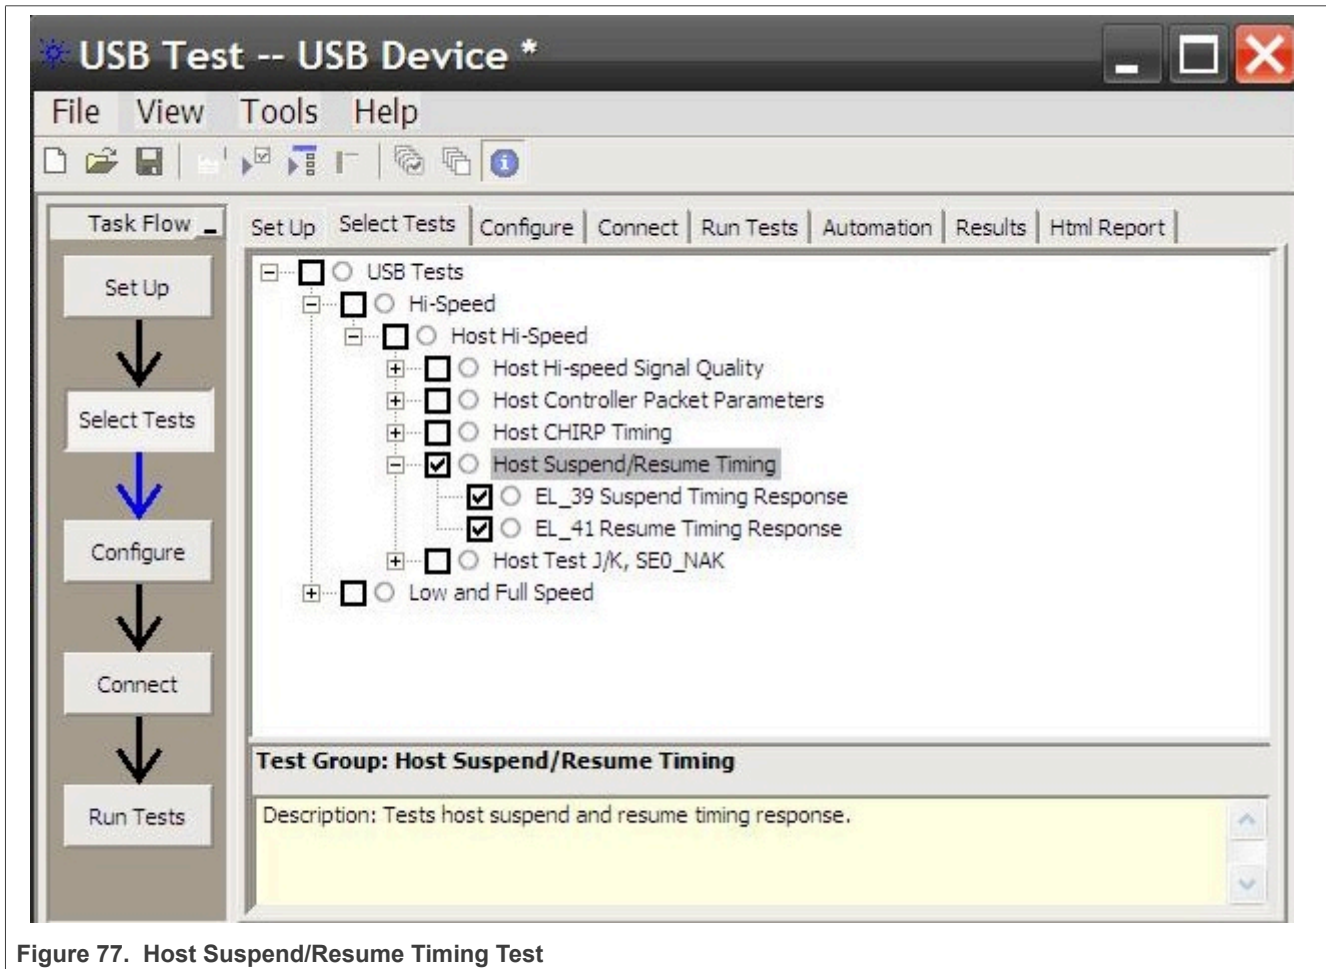

Figure 77. Host Suspend/Resume Timing Test
1. Select the test items in the USB Automated Test Software on Oscilloscope as shown in Figure 77 below, and make sure you set the Test Type configuration option to “Hi-Speed Near End” before running the test.